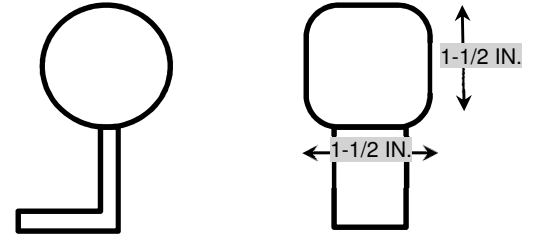

Figure 5
12. Handrail grip size. Handrails with a circular cross section shall have an outside diameter of at least 1 1/4 inches and not greater than 2 inches. If the handrail is not circular it shall have a perimeter dimension of at least 4 inches and not greater than 6 1/4 inches with a maximum cross section of dimension of 2 1/4 inches. (see figure 5 for examples)